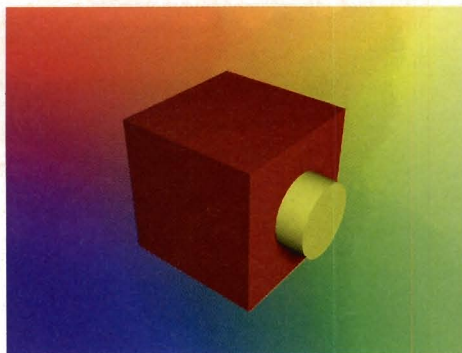

Figure 3
Hit (1) to go to layer 1, then (Alt 2) to place layer 2 into the Background Layer. Select (Shift B) to bring up the Booleans Menu and pick Union from the list, then push OK. After the progress window disappears you should have a cube with two pegs joined to it (Figure 3).